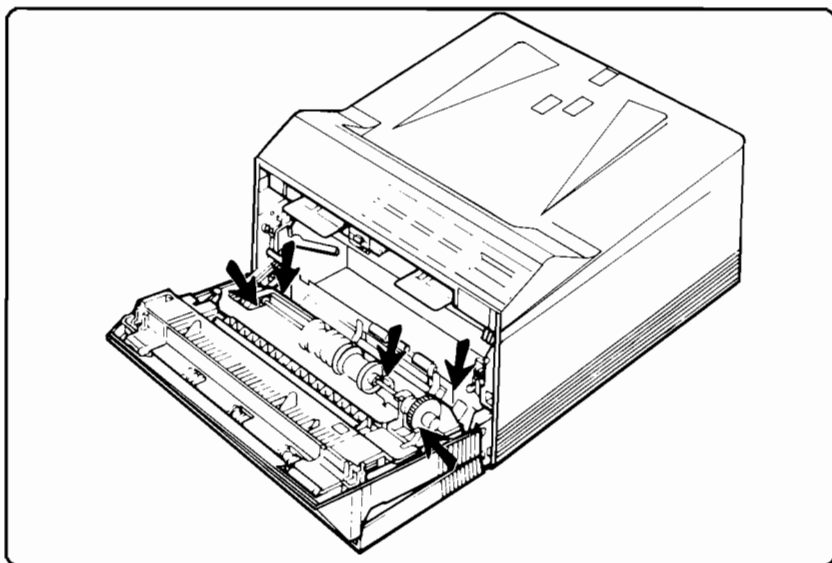

Figure 4-4. Toner Accumulation Areas
2. Look inside the printer for toner (black dust) and paper particles. Figure 4-4 shows areas where toner may collect.